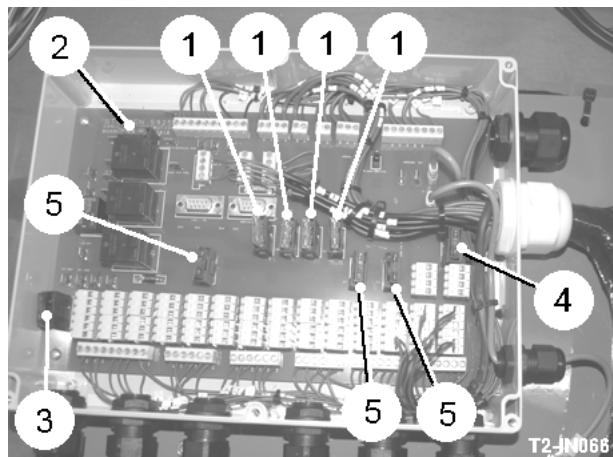

Fig 55
- 4x 25Amp fuses to protect the module power feeds (item 1, fig 55).
- 1x 25Amp fuse to protect the auxiliary feed (item 2, fig 55).
- 1x 2Amp fuse to protect the 10.0Volts joystick feed (item 3, fig 55).
- 1x 2Amp fuse to protect the 8.5Volts joystick feed (item 4, fig 55).
- 3x 2Amp fuses to protect the sensor power feeds (item 5, fig 55).